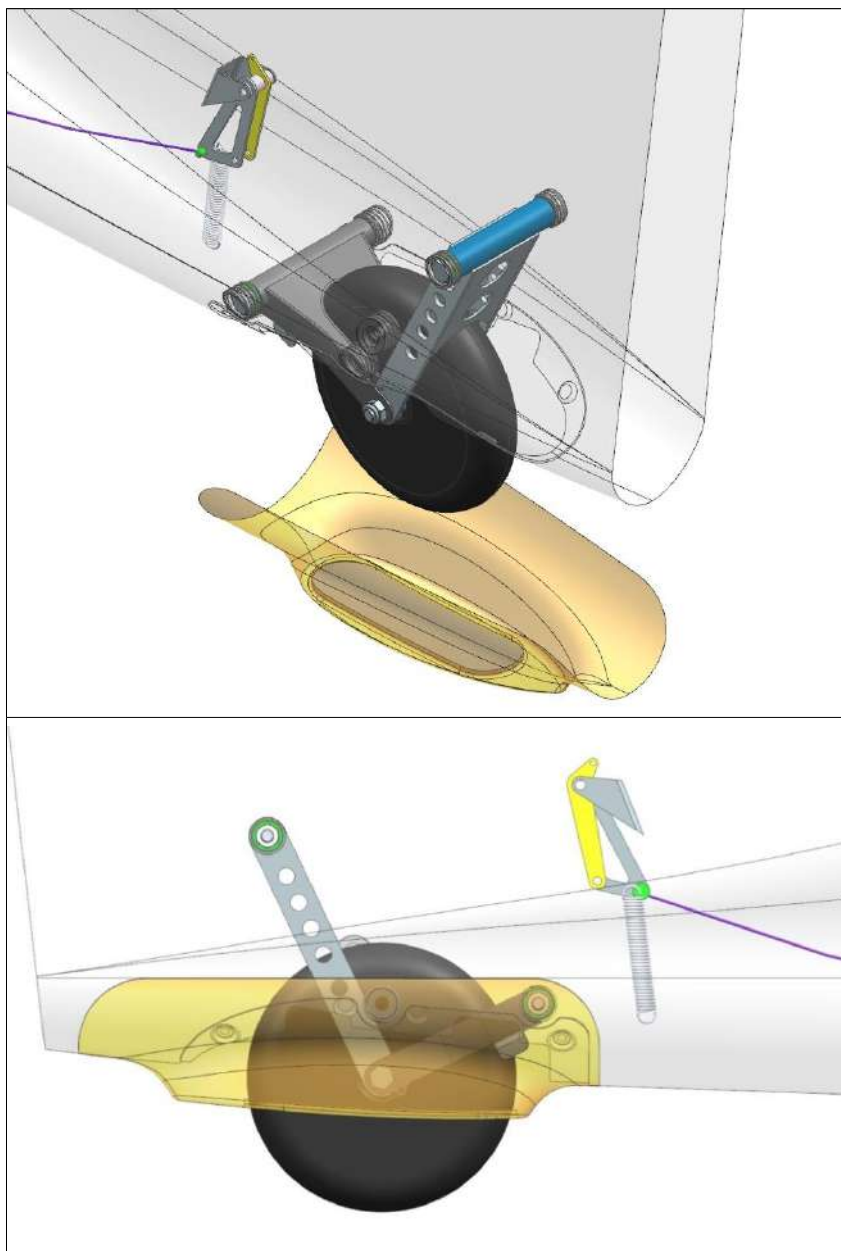

Figure 32-27: Tail wheel fairing installed
13. Install the tail wheel fairing from below. Secure the fairing to the fuselage with electrical tape (Figure 32-27).